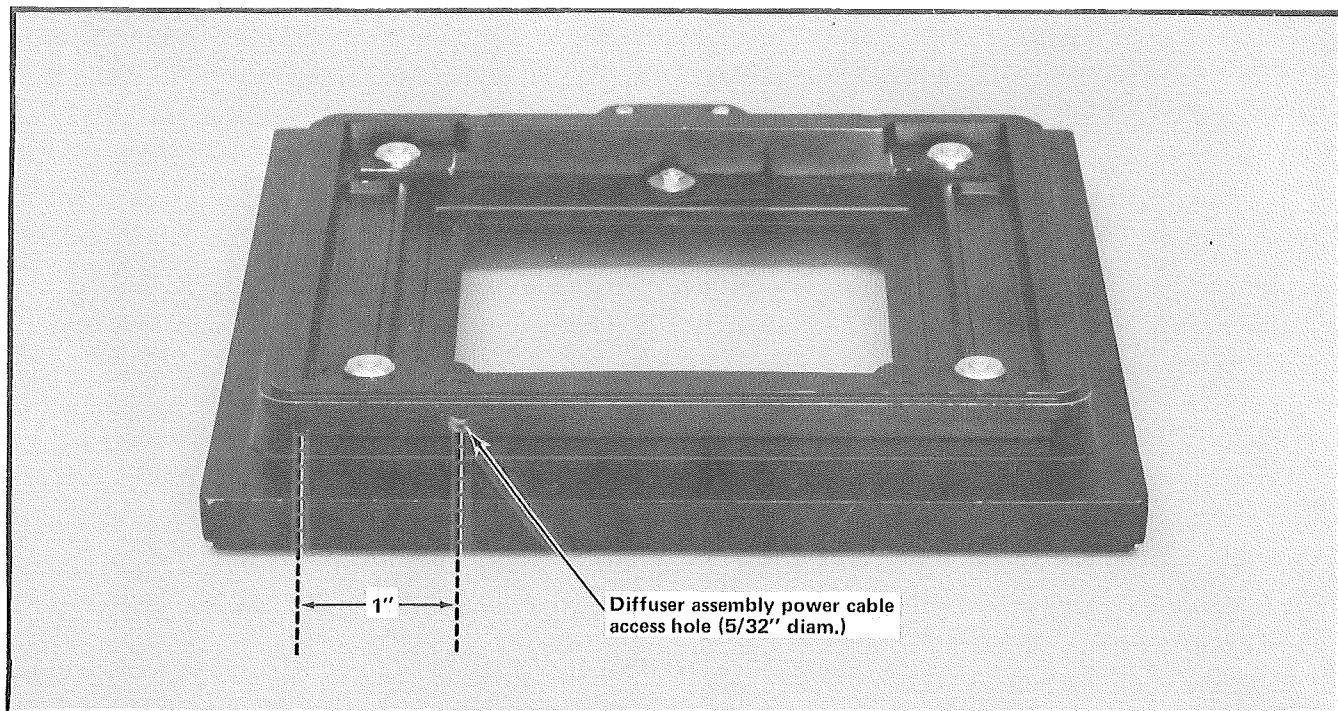

Fig. 2-11. Correct location of access hole for diffuser assembly power cable.
3. Drill a 5/32-inch diameter hole in the slide adapter in the location shown in Fig. 2-11. Finished hole diameter should be 0.156 inch, ± 0.010 inch and it should be centered in the trough.